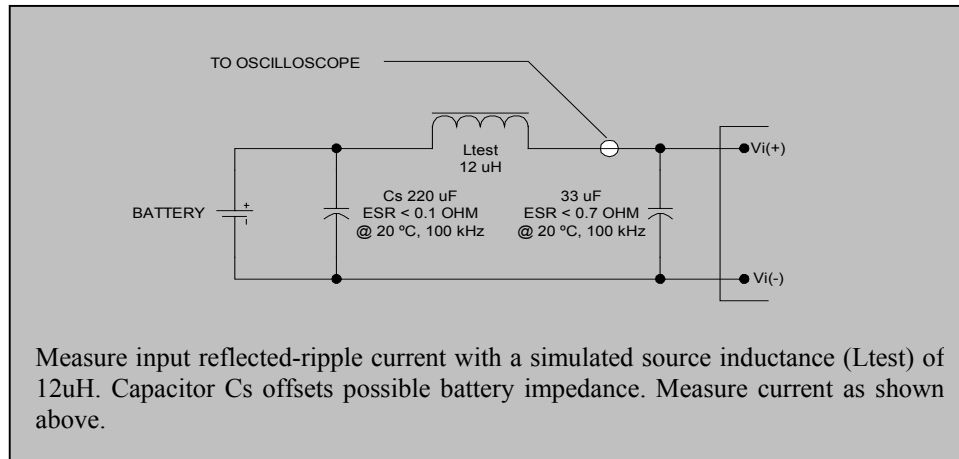

Figure 1. Input Reflected Ripple Current Measurement Setup.
3. Refer to Figure 1 for Input Ripple Current test measurement setup.